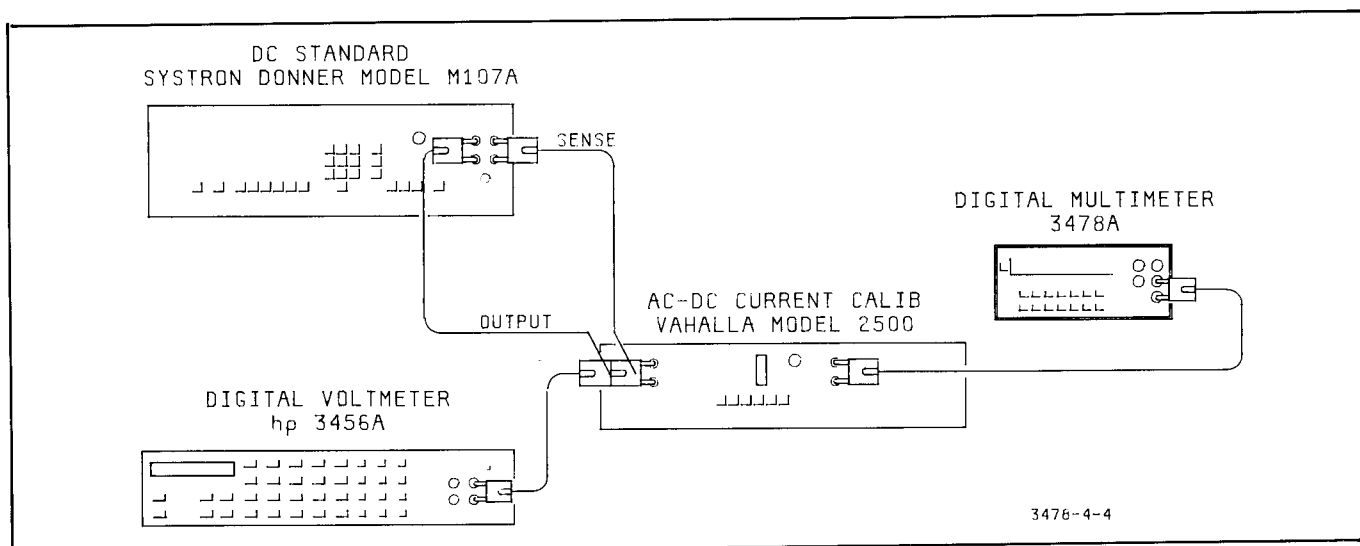

Figure 4-4. DC Current Accuracy Test and Calibration
i. Connect the DC Volts Standard and Digital Voltmeter to the AC-DC Current Calibrator as shown in Figure 4-4.